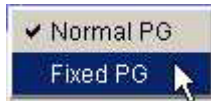

Figure 5.9 Fixed Parity Group Pop-Up Menu
4. From the  normal parity groups, select a parity group that you want to exclude from auto migration operations. Next, right click the  normal parity group icon and select **Fixed PG** from the pop-up menu (see Figure 5.9). The selected parity group is indicated by the  (red pin) parity group icon and becomes “fixed.”
*Tip:* If you want to enable logical volumes in a fixed parity group to be moved to another parity group, you must change the fixed parity group to a “normal” parity group. To do this, right-click the fixed parity group (indicated by the  (red pin) icon) and then select **Normal PG** from the pop-up menu (refer to Figure 5.9).